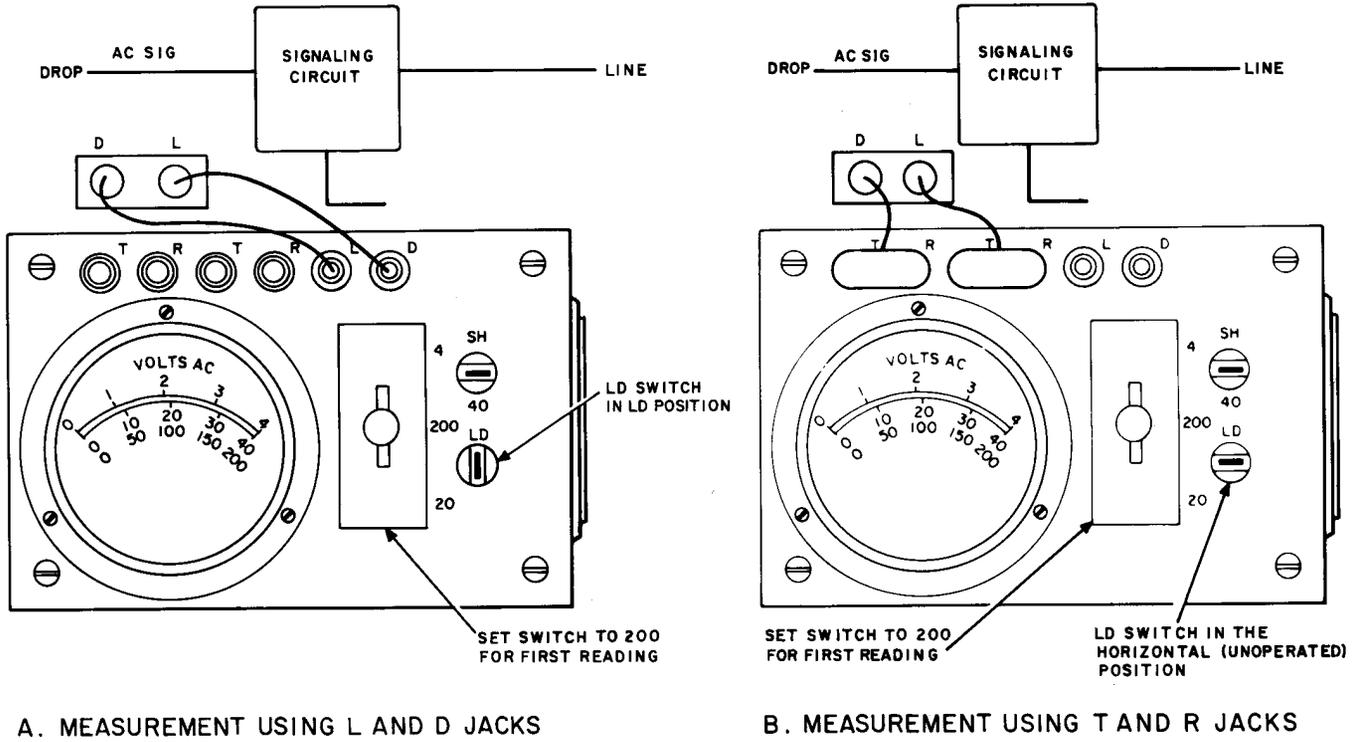

Fig. 4-6—Typical Test Arrangements
**4.34** When patching the 2AH set to the circuit under test, the set is patched in series with the circuit (see Fig. 4-6). However, the internal wiring arrangement of the meter bridges the circuit and, therefore, the impedance of the circuit under test is not altered to any appreciable degree.